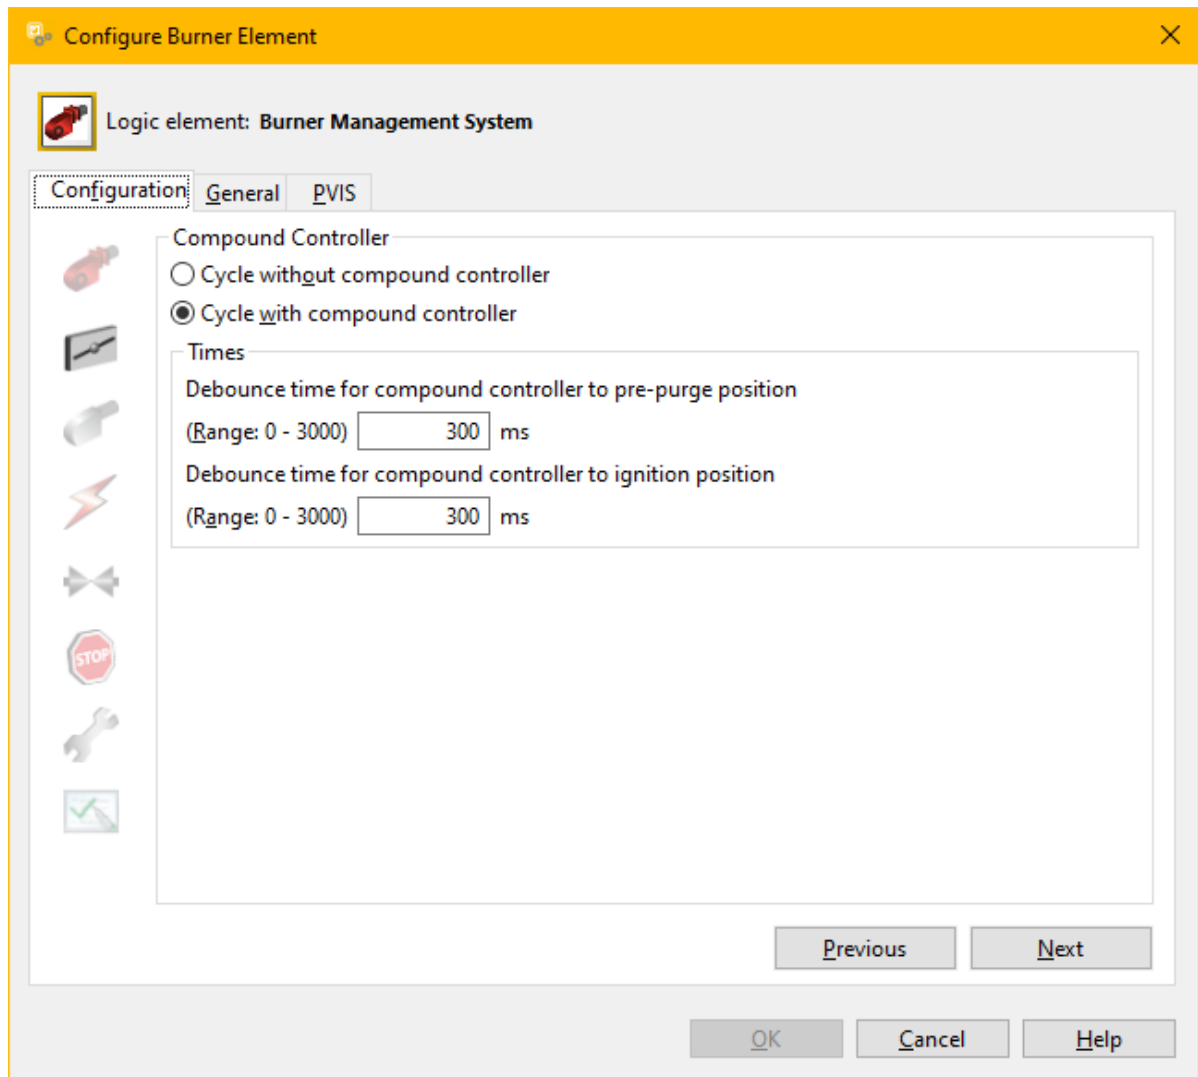

Figure 52: PNOZmulti Burner element – Settings compound controller
- ▶ For this feedback signal a debounce time can be configured in the 1st setting "Debounce time for compound controller to pre-purge position" in section "Times" in following Figure 52 [39].
- ▶ For this feedback signal a debounce time can be configured in the 2nd setting "Debounce time for compound controller to ignition position" in section "Times" in following Figure 52 [39].